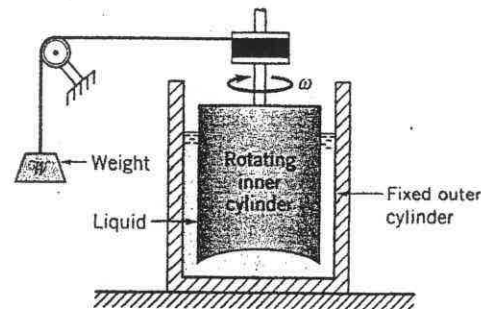

FIGURE P1.88
1.88 One type of rotating cylinder viscometer, called a Stormer viscometer, uses a falling weight, W , to cause the cylinder to rotate with an angular velocity, ω , as illustrated in Fig. P1.88. For this device the viscosity, μ , of the liquid is related to W and ω through the equation $W = K\mu\omega$, where K is a constant that depends only on the geometry (including the liquid depth) of the viscometer. The value of K is usually determined by using a calibration liquid (a liquid of known viscosity).